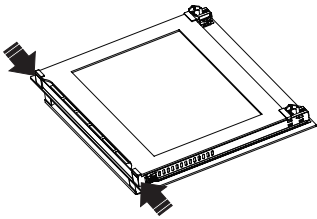
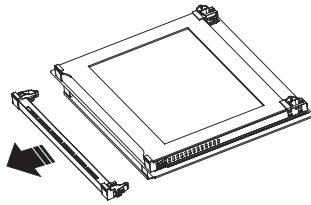
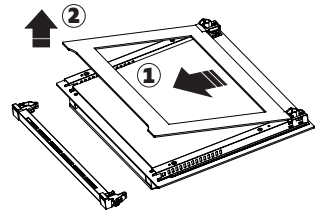

Figure 17
Figure 18
Figure 19
**1.** Press the plastic latches on the left and right side as shown in figure 17 and lift the profile by pulling it towards you as shown in figure 18. Glass is free after the profile is removed as shown in figure 19. Carefully pull the glass that has become free toward you. If necessary, the central glass can be removed in the same way. The outer glass is fixed to the oven door profile. You may easily clean the glasses after they have been separated. Once the cleaning and maintenance is complete, you may replace the glasses and the profile by performing the removal procedure in reverse. Make sure that the glass is inserted in the correct direction and that the profile fits properly.